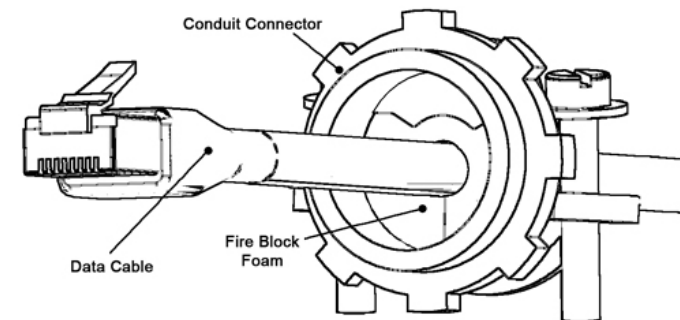

Figure 5
Step 4 – Run the data cable through the conduit connectors located on sides of the enclosure backbox. Pull the data cable through the conduit connector far enough to allow attachment to the access point (8" - 10"). Snap the firestop grommet on to the cable and slide it inside the conduit connector (Ref. Figure 5).